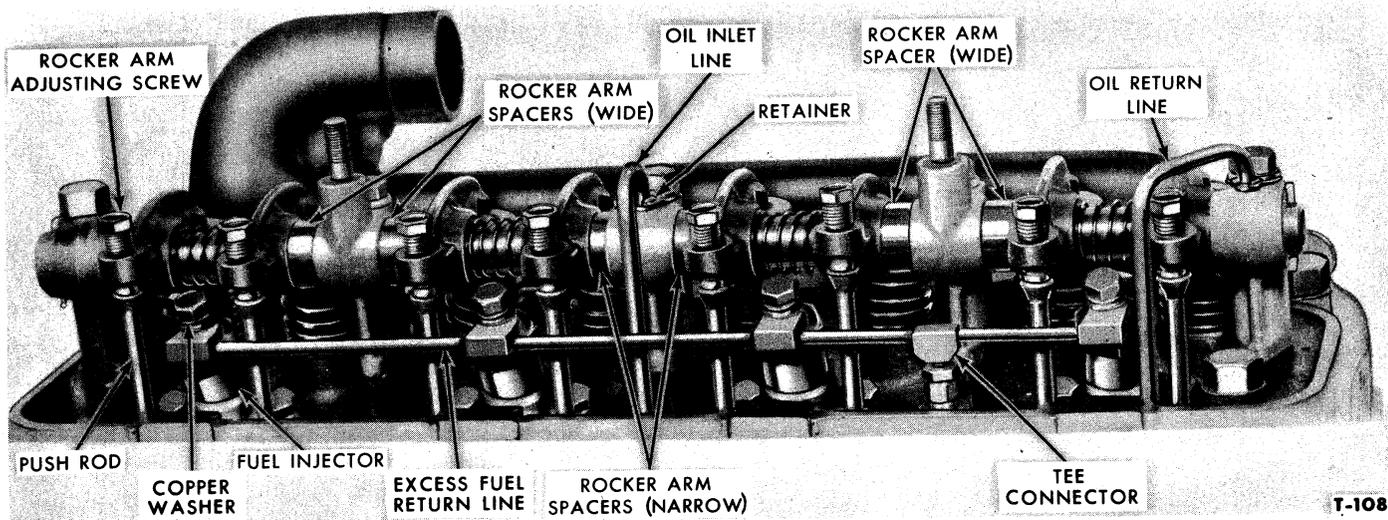

Figure 10—Diesel Engine With Rocker Arm Cover Removed
- a. Disconnect the excess fuel line at the tee connection, Figure 10. Remove the four bolts that attach the excess fuel line to the injectors and remove the line.